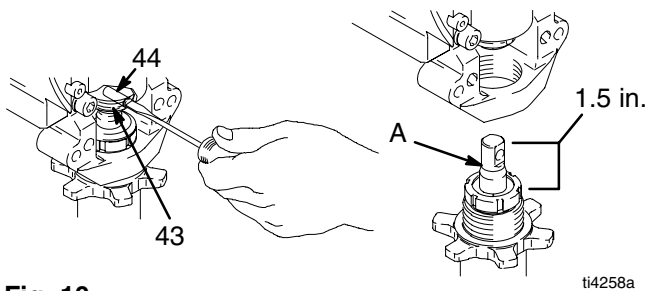

Fig. 10
4. Fig. 10. Cycle pump in JOG mode until pump pin (44) is in position to be removed. Turn power switch OFF and unplug power cord. Push up retaining ring (43) and push pump pin out.
1. Fig. 10. Extend pump piston rod 1.5 in. Apply grease to top of pump rod at (A) or inside connecting rod.